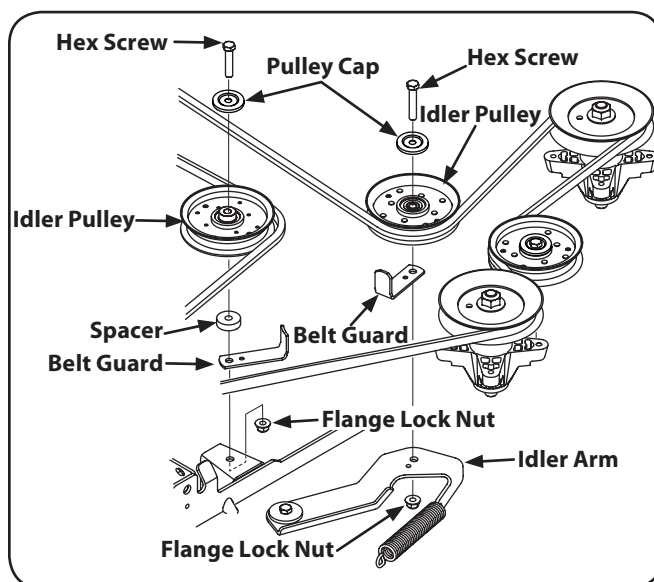

Figure 7-12
- Remove the two idler pulleys by removing the hex screws and flange lock nuts that secure them to the deck and the idler arm. See Fig. 7-12. Do not lose any of the hardware when removing the hex screw and flange lock nut.
- Place the belt around the idler pulleys removed in step 3 with the "V" side facing in. Once in place, reinstall all the hardware and tighten the flange lock nut to secure the assembly. See Fig. 7-12.